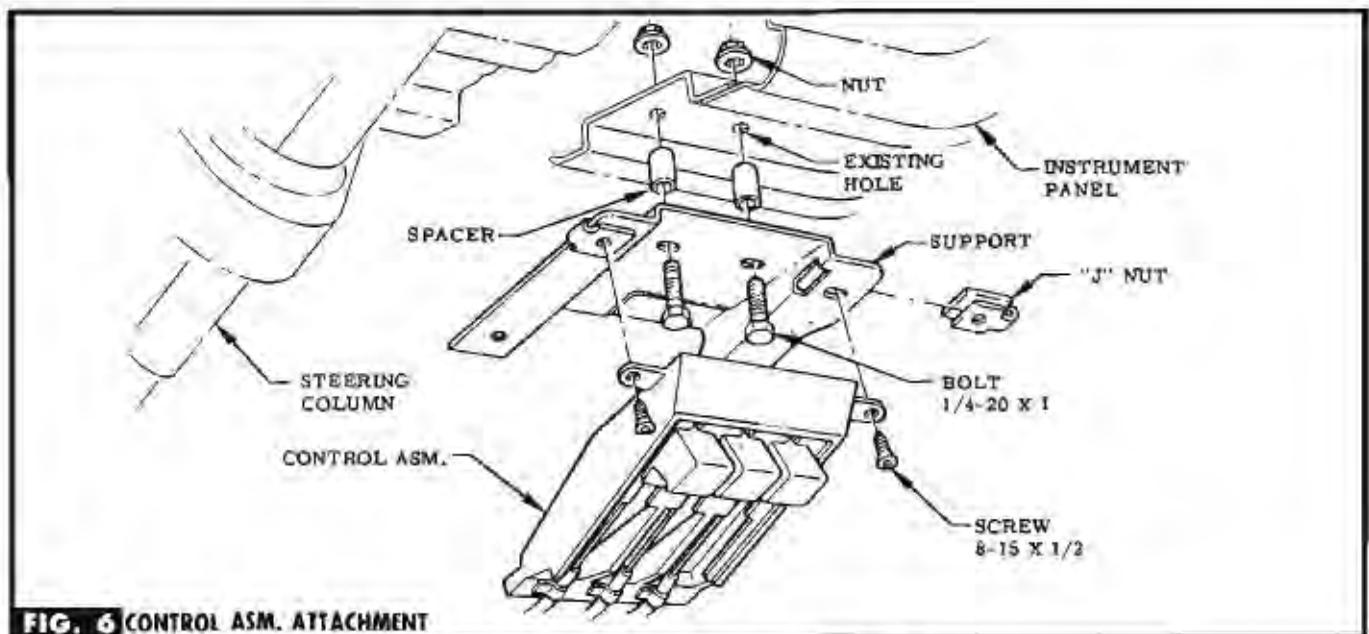

FIG. 6 CONTROL ASM. ATTACHMENT
STEP 34 ATTACH SUPPORT TO INSTRUMENT PANEL WITH SPACERS & ATTACHING PARTS PROVIDED (IN BAG A). SEE FIG. 6.
STEP 35 ATTACH CONTROL ASM. TO SUPPORT WITH ATTACHING PARTS PROVIDED (IN BAG A). SEE FIG. 6.